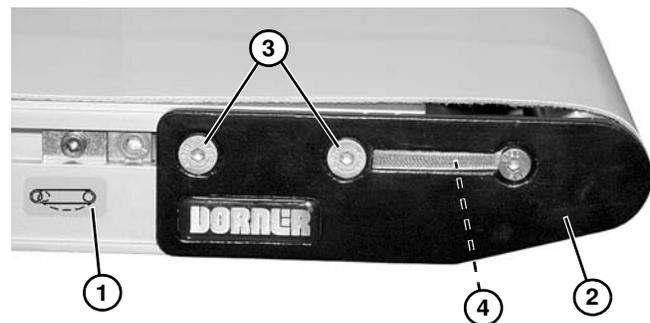

Figure 54
1. On tension end of the conveyor, identified with a label (**Figure 54, item 1**), adjust head plate assembly (**Figure 54, item 2**): On both sides of conveyor, loosen fastening screws (**Figure 54, item 3**) and rotate pinion gear (**Figure 54, item 4**) to adjust head plate assembly.
- After adjusting proper tensioning, tighten fastening screws (**Figure 54, item 3**) on both sides of conveyor to 60 in-lb (7 Nm).